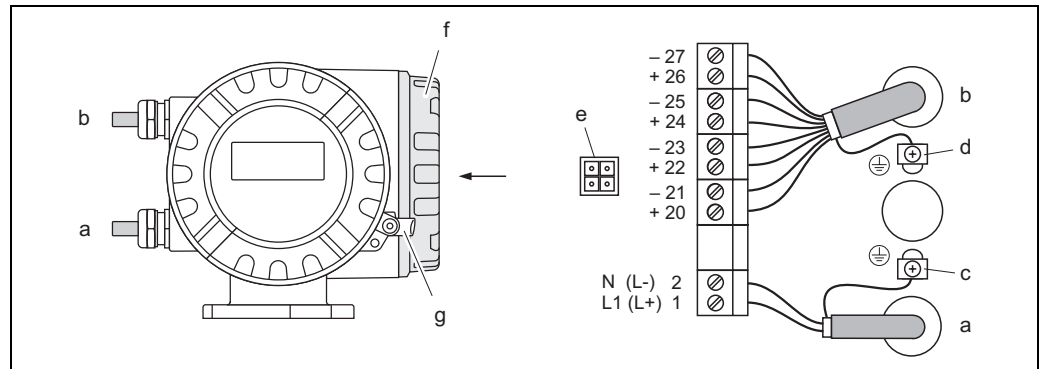

Fig. 18: Connecting the transmitter (aluminium field housing). Cable cross-section: max. 2.5 mm2
- Wiring diagram (aluminium housing) → Fig. 18